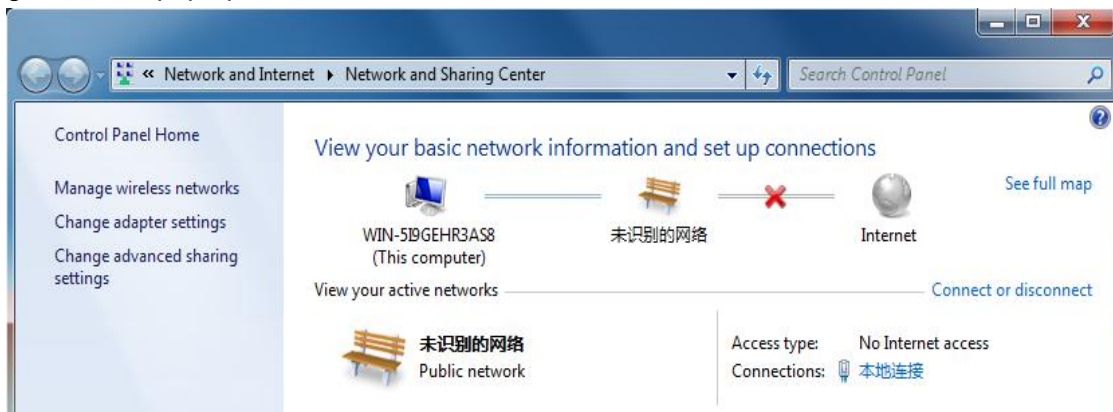

Figure 68
Step 2: Click "Open Network and Sharing Center" as shown in the above picture (in the red box), and the following figure 68 will pop up.